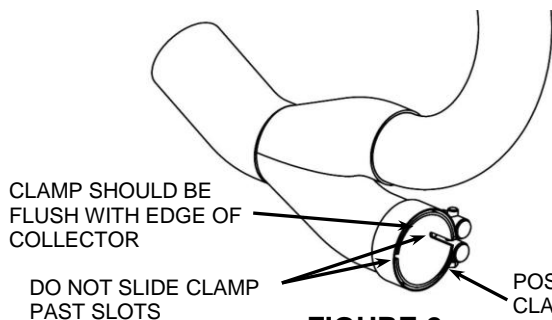

**FIGURE 1**
5. Install the supplied exhaust mount bracket using the stock bolts. See **FIGURE 1**. Tighten the bolts to factory specifications. If applicable, be sure to insert the large spacer between the exhaust mount and the transmission case as shown in **FIGURE 1**.